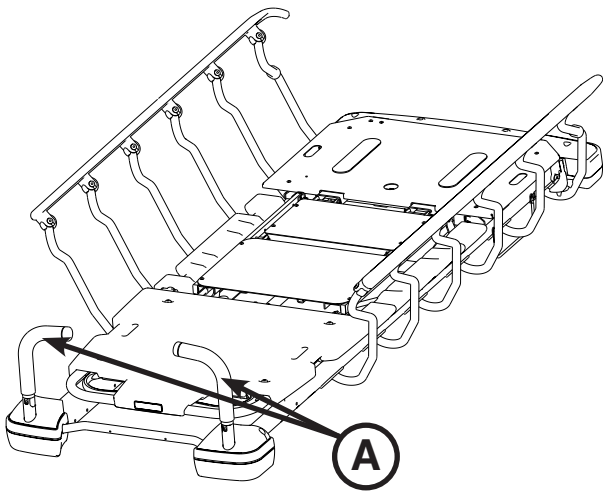

Figure 20: Push Handles Open
To use the push handles, pivot the handles (A) up and push down until they are locked into position (Figure 20).